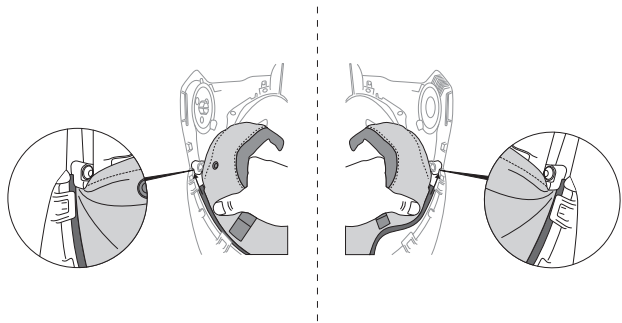

Fig. 13c
- c. To replace the faceseal, with the underside of the welding helmet facing up and the airduct tube pointed away, position the faceseal with front grasping tabs up. Fit the outer edges of the front plastic retainer into the appropriate grooves on each side and fit the center into the groove in the front of the welding helmet. Make sure it is tightly fitted in the center grooves (Fig. 13c).